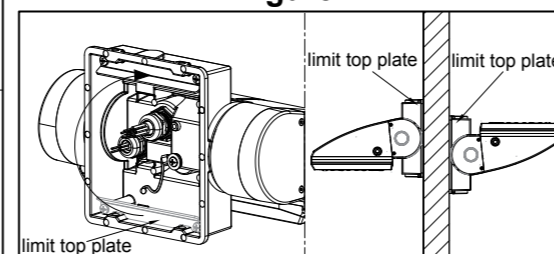

Figure 3
9. The lamps are installed with the light-emitting surface facing down by default. If you need to install the light-emitting surface facing up, you need to remove the limit top plate and install it on the opposition. See Figure 3 for details.
6. The installation direction is adjustable, and the mirror installation of the limit top plate can realize the reverse installation of the lamp, as shown in Figure 3.